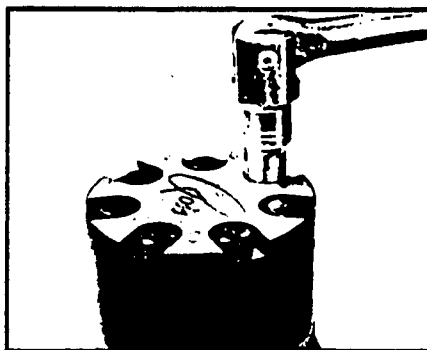
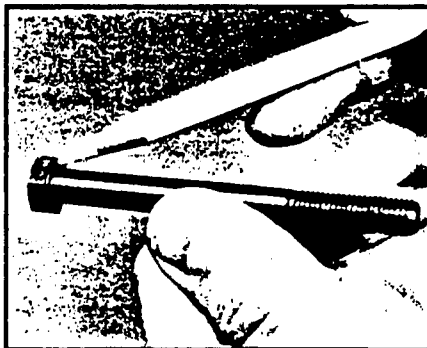

Figure 4
Figure 5
2. Remove the seven special ring head bolts (2) using a ½ inch thin wall socket to enter the end cover bolt head recess. SEE FIGURE 4. Inspect bolts (2) for damaged threads, or sealing ring, under the bolt head. Replace damaged bolts. SEE FIGURE 5.